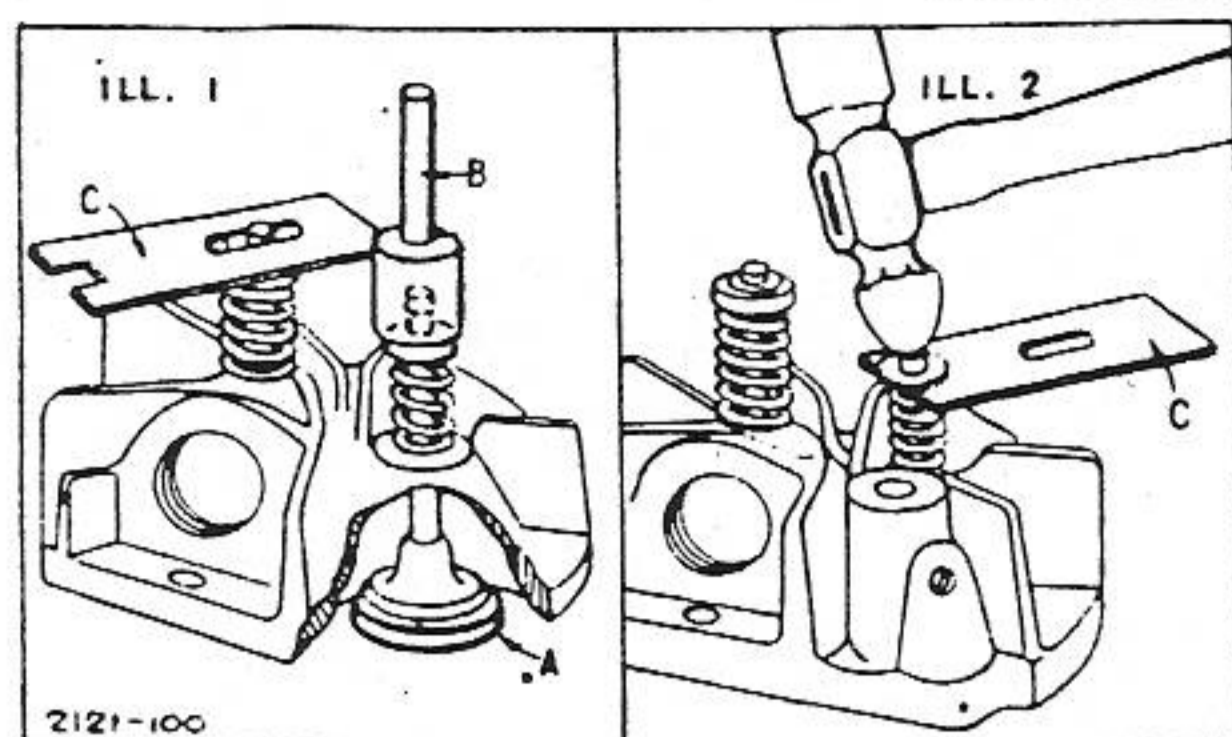

FIG. 112—REMOVING & ASSEMBLING VALVES
To remove exhaust valve, place part (A) of Tool No. 65292-2-T1 under the valve head as shown in Fig. 112, Ill. 1. Be sure that this round tool stays under the valve head. Place slotted hole in tool (C) over the retainer as shown in Ill. 1. Press down tool (C) and release the collars that hold the retainer in place. Remove retainer and spring to take out valve.
To assemble intake valve, insert tool (A) under valve head. Replace the spring and press the retainer on part way with tool (B) as shown in Fig. 112, Ill. 1. Insert tool (C) between the end of valve stem guide and retainer above the spring. Ill. 2. This allows for the correct valve clearance. The thickness of tool (C) is about .036" which regulates proper valve opening. Press retainer down as far as possible and peen over the end of valve carefully to hold the retainer in place.